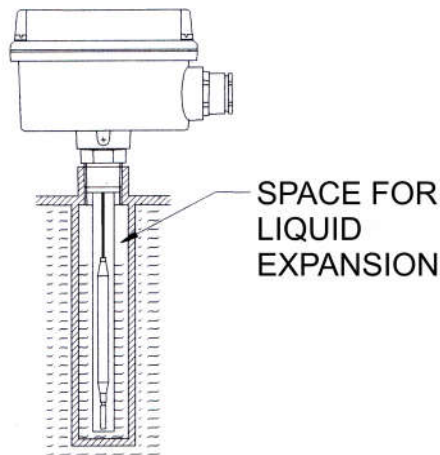

Fig. 3
- **Additional protection wells (Fig. 3):**